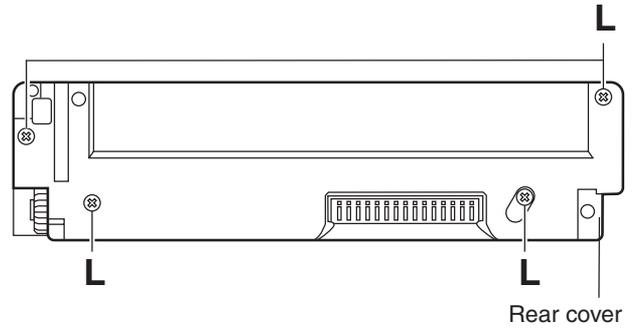

Fig.10
### 2.1.9 Removing the front board (See Figs.10 to 12)
- (1) Remove the four screws **L** attaching the rear cover on the back side of the front panel assembly. (See Fig.10.)